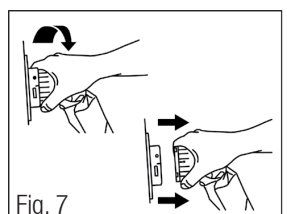

Fig. 7
5.4 Patient Transport Facility (Fig. 7)